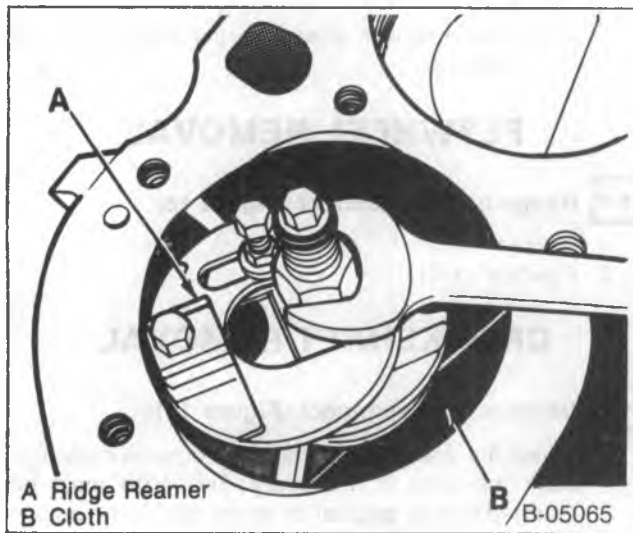

Figure 13—Removing the Cylinder Ridge
↔ Remove or Disconnect (Figures 13 and 14)
- Perform the cutting operation with a ridge reamer (figure 13).